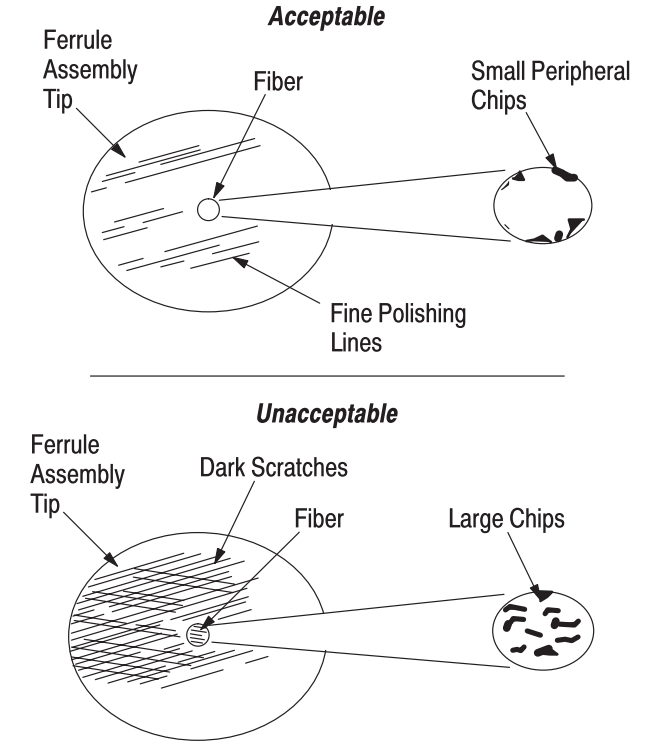

Figure 10
- Using the microscope, inspect the ferrule assembly and fiber according to the following criteria (refer to Figure 10):